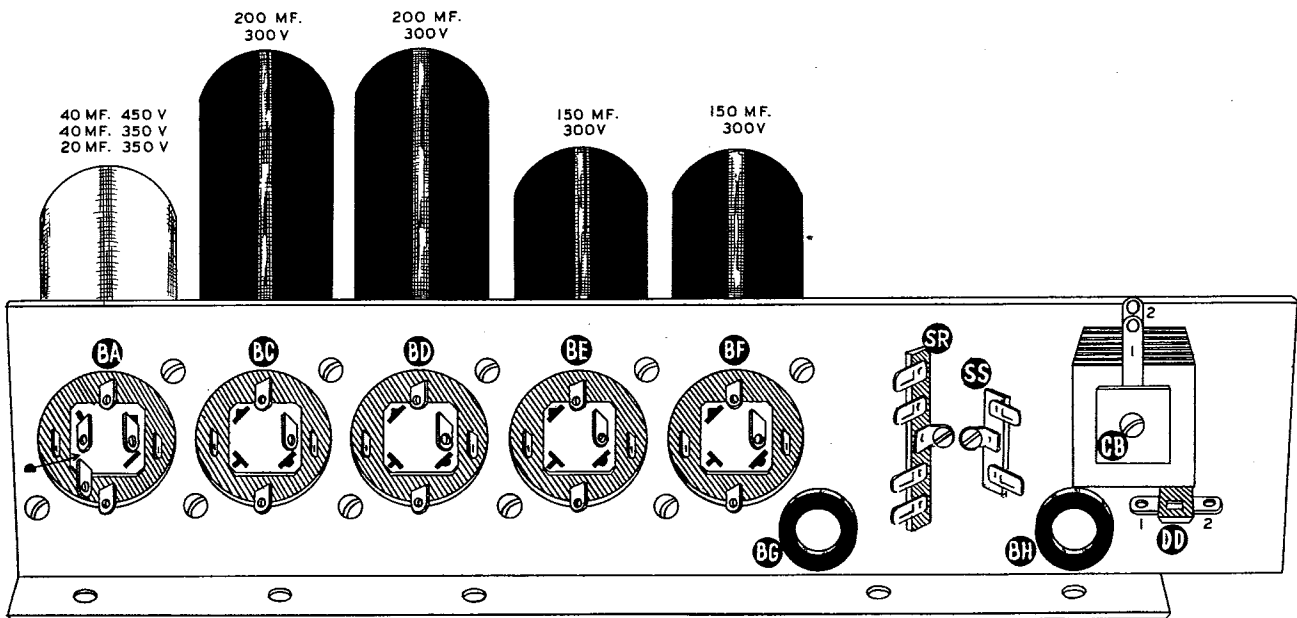

Figure 14
- () Viewing the power supply bracket as shown in Figure 14, mount the five fiber electrolytic mounting wafers at BA, BC, BD, BE, and BF, using 6-32 hardware. Be sure to mount the wafers on the side away from the flange.
- () Mount a 150 μmf 300 V electrolytic capacitor on wafer BF. Orient so that the large (+) terminal is positioned as shown in Figure 14, with the four mounting lugs protruding through the slots in the wafer. While holding the capacitor firmly against the wafer, twist each of the four mounting lugs 1/8 turn, using pliers.
- () Install the 3-section (40/20 μfd 350 V and 40 μfd 450 V) electrolytic capacitor at BA. Orient so that the lugs are positioned as shown in Figure 14.